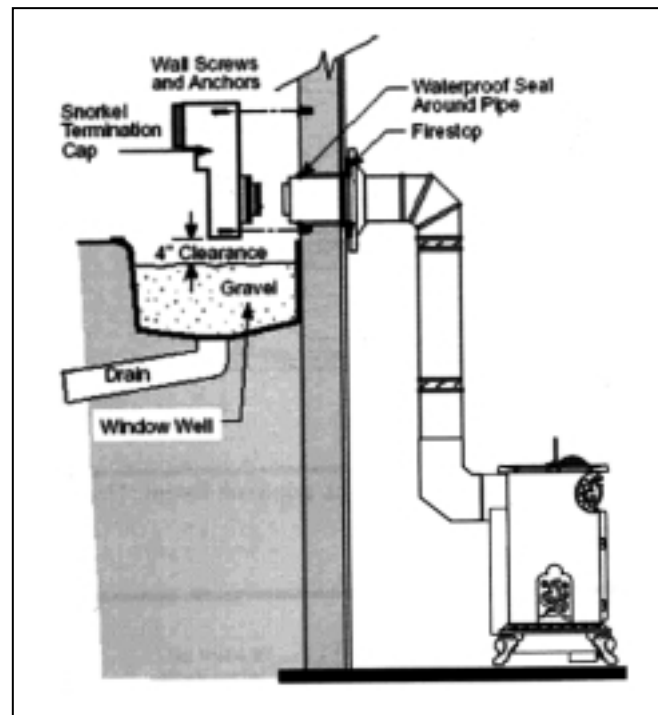

Fig 14. Snorkel kit installation.
Install Snorkel Kit when it is not possible to meet the required vent termination clearances of 12" (305mm) above grade level. The snorkel kit will allow installation depth of down to 7" (178mm) below grade level. The seven inches is measured from the center of the horizontal vent pipe as it penetrates the wall. If the venting system is installed below grade, a window well must be installed with adequate and proper drainage. (Fig. 14)
2. Remove soil to a depth of approximately 16" (400mm) below the base of the snorkel. Install a window well (not supplied). Refill the hole with 12" (305mm) of coarse gravel and maintain a clearance of at least 4" (100mm) below the snorkel. (Fig. 14)
This installation will require you to first determine the roof pitch and use the appropriate vent components. Refer to Figures 14 and 16